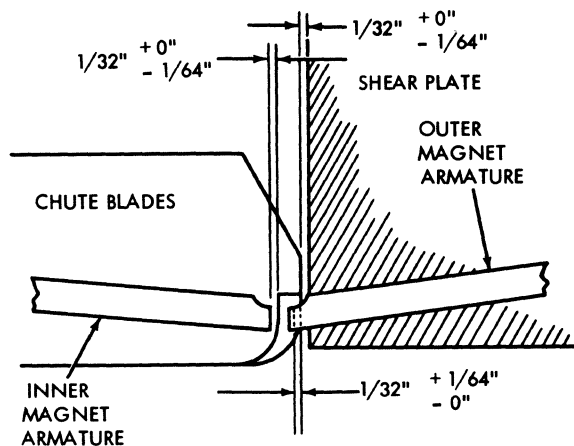

Figure 3-38. Chute Blade, Top View
2. Adjust chute blades, with chute blade mounting screw, for $1/32" \pm 1/64"$ clearance between end of lower chute blade and lower card guide plate. See Figure 3-38.